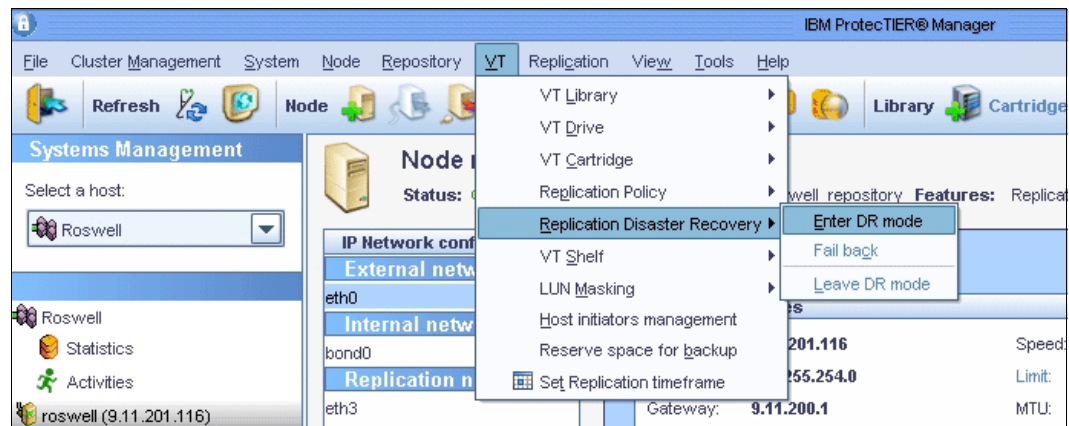

Figure 11-1 Moving to ProtecTIER DR mode
1. Initiate the DR mode on the hub repository through the ProtecTIER Manager (Figure 11-1), which will block all replication activities (including visibility switch) at the DR site (and at the primary site, if it is still up in the case of a DR test). The repository must be defined as a hub in a grid environment.